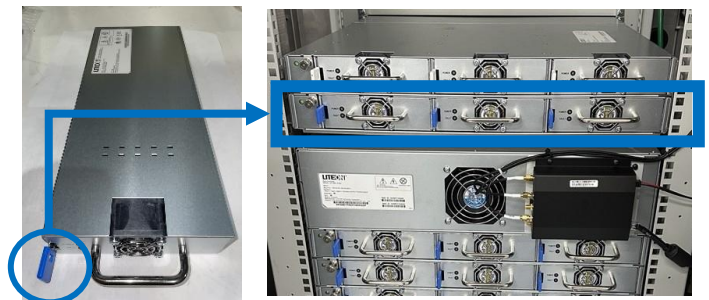

Figure 33 – Rectifier modules (blue tabs) installed in lower shelf of Inverter Shelf Set
8. Insert 3 additional Rectifier Modules (with blue tabs) into the lower shelf of the HX Controller shelf set (indicated in Figure 33).